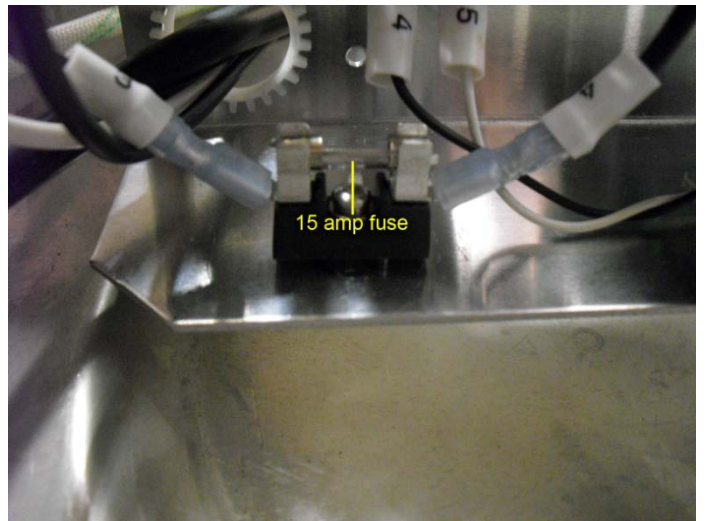

Figure 5
3. Locate the fuse under the wires (See Figure 5).